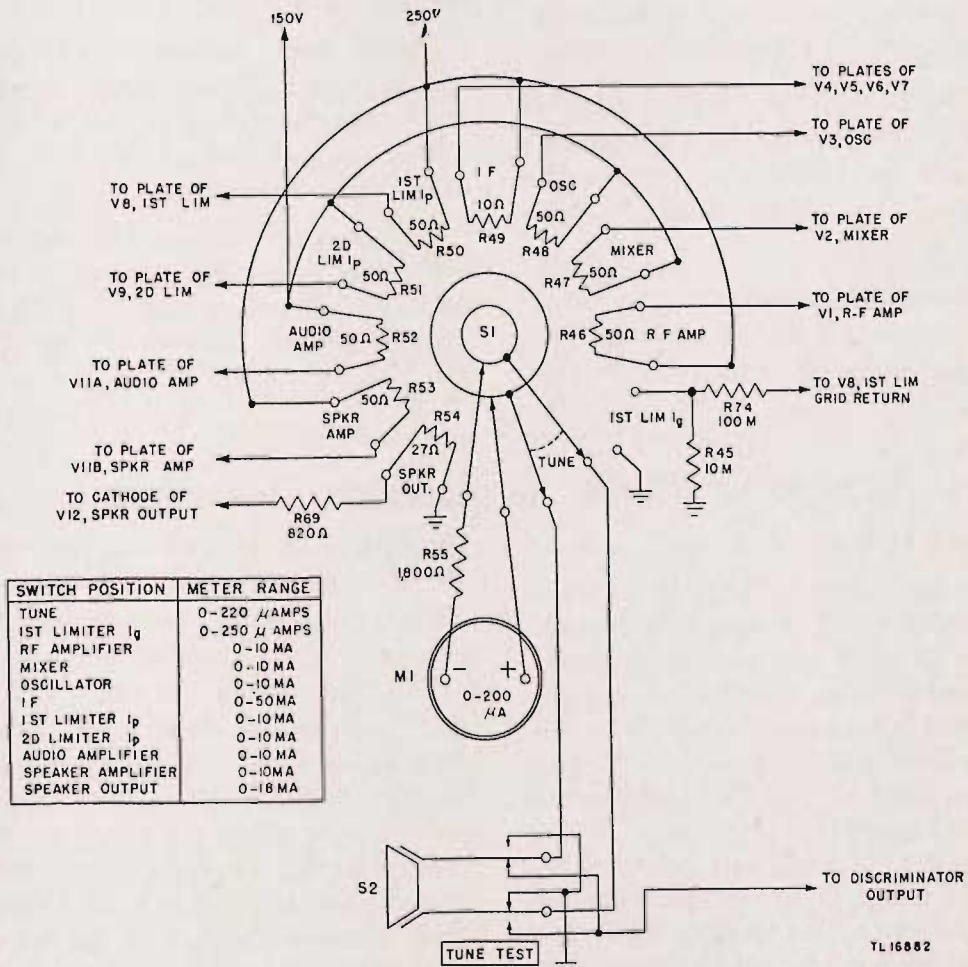

Figure 104. Radio Receiver R-48/TRC-8 (XC-3), functional diagram of meter switch.
e. A d-c component also appears across diode load resistors R43 and R44 due to rectification of the constant-amplitude carrier. When a signal is tuned in properly, this voltage becomes zero. When the signal is tuned to one side of the band, this d-c voltage will have a positive or negative polarity depending upon which side of the center frequency the receiver is tuned to. This voltage is used as an indication of proper tuning by being applied to the meter through filter systems C77, R56, and C78, R57, R79, C81, and R58 to TUNE TEST switch S2 and meter switch S1 (fig. 104). The d-c voltage appearing across R58 results in a meter reading. Thus a zero reading on the meter with meter switch S1 in the TUNE position indicates that the receiver is properly tuned. The TUNE TEST button merely reverses the meter so that a small deflection will indicate mistuning. Resistor R79, 100,000 ohms, is the AUDIO GAIN control.
A meter M1 and meter switch S1 are provided on the front panel of the receiver for checking the operation of each stage. Resistors R45 to R55, in conjunction with meter M1, provide the ranges shown in the table in figure 104. The function of each switch position is as follows: